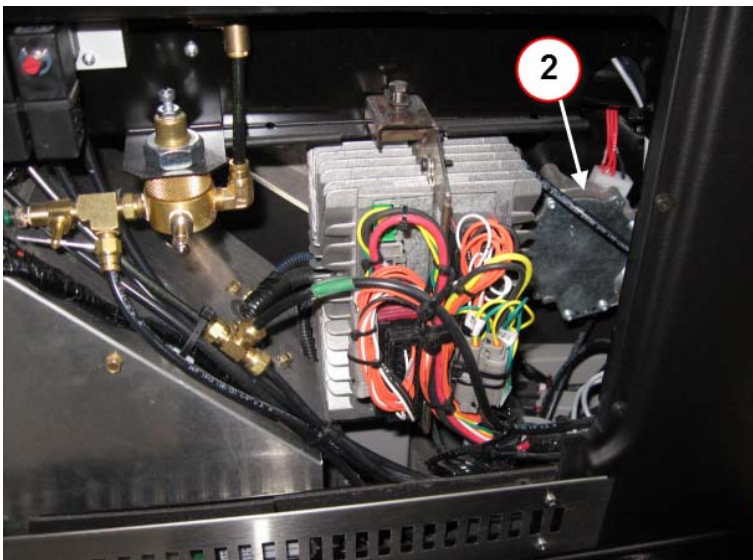

FIGURE 6
4. Locate the wiper motor assembly (item 2, figure 6).